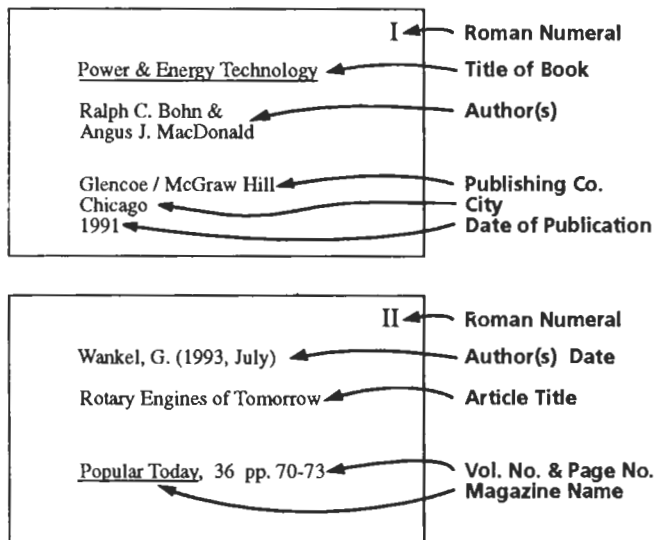

Figure 1 - Sample Bibliography Cards
1. Obtain a package of 3"x5" index cards. Begin by creating a series of **bibliography** cards. These will identify the source of your information. Prepare one bibliography card for each book, magazine article, or other source in which you find information relevant to your topic. (See Figure 1 for sample bibliography cards.) Bibliography cards are identified by Roman numerals (I, II, III, IV).